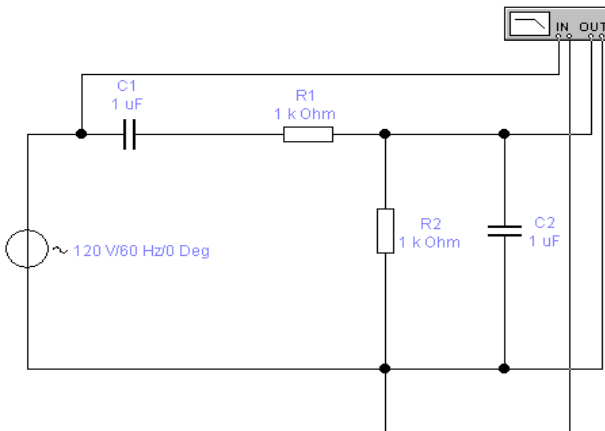

Figure 8.9 – Scheme of the Vina Bridge
27. Draw a pattern of fig. 8.9 and connect the Bode Plotter.